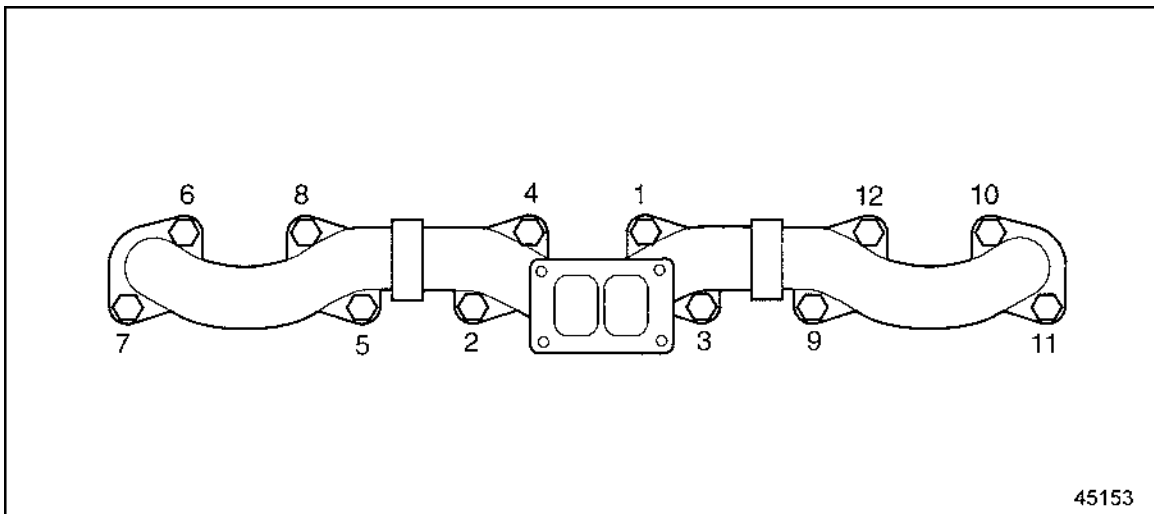

Figure 2 Torque Sequence for Exhaust Manifolds
3. Install six exhaust manifold guide studs, J-36107 (four guide studs per set), into the cylinder head in locations 6, 8, 4, 1, 9, and 11 to hold the three exhaust manifold gaskets in the correct position and facilitate manifold installation. See Figure 2.
6. Install and slightly tighten the mounting bolts and spacers in locations 7, 5, 2, 3, 12, and 10. The load should be enough to hold the exhaust manifold assembly in place when the guide studs are removed. See Figure 2.
8. Install the remaining manifold bolts and spacers to the holes from which the studs were removed. Torque all bolts to 58-73 N·m (43-54 lb·ft). See Figure 2 for torque sequence.